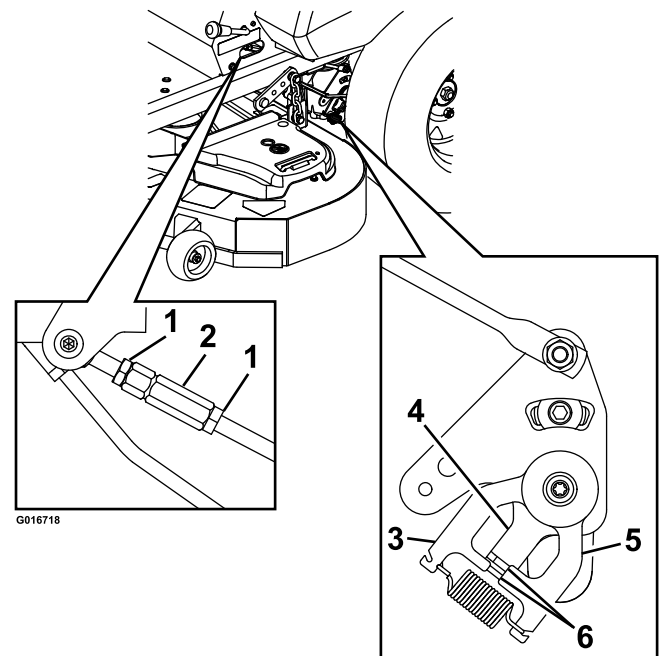

Figure 32
7. Bring the motion control levers into the neutral position. The control plate tabs should touch the return to neutral plates on the hydros. Adjust pump control rod lengths by loosening the nuts and rotating the turnbuckle in the appropriate direction until the wheels slightly creep in reverse (Figure 32). Move the motion control levers to the reverse position and while applying slight pressure to the lever allow the reverse indicator springs to bring the levers back to neutral. The wheels must stop turning or slightly creep in reverse.